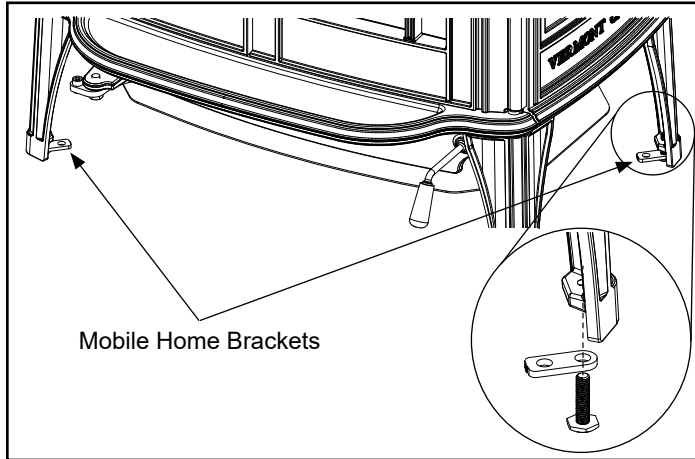

Figure 6.1
2. The stove must be permanently secured to the floor using the mobile home brackets supplied in the manual pack along with screws or lag bolts (not supplied), Figure 6.1.